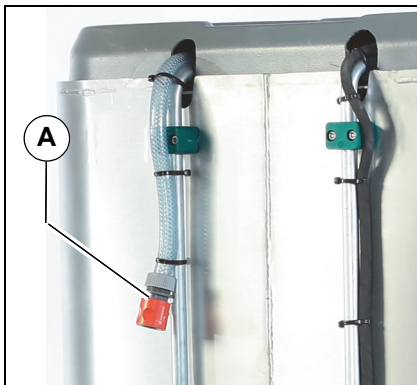

Fig. 150:
2. Connect a water hose to the water connection **Fig. 150-A** of the dirt hopper.